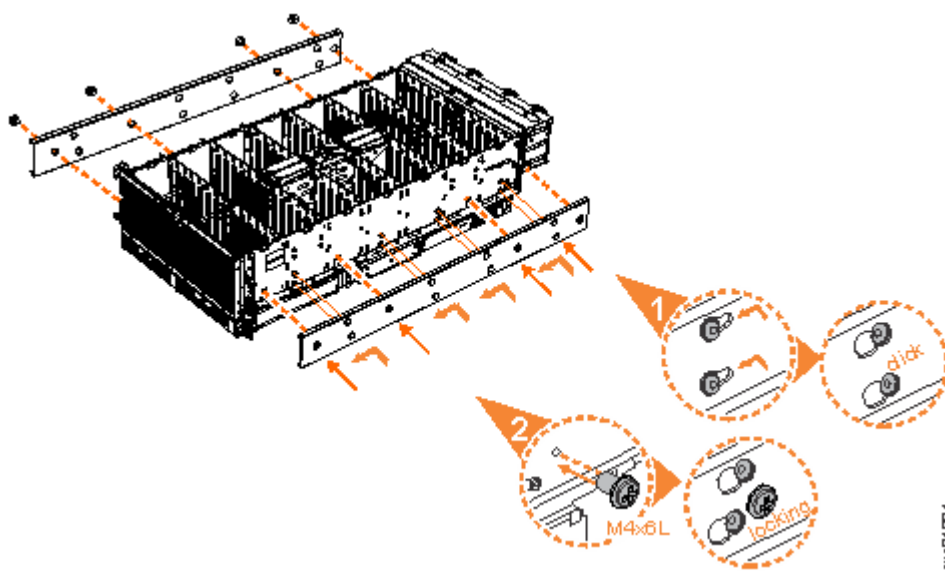

Figure 46. Attaching the inner rail section to the enclosure
5. Install the inner section of the rail onto each side of the expansion enclosure, as shown in Figure 46 on page 48.